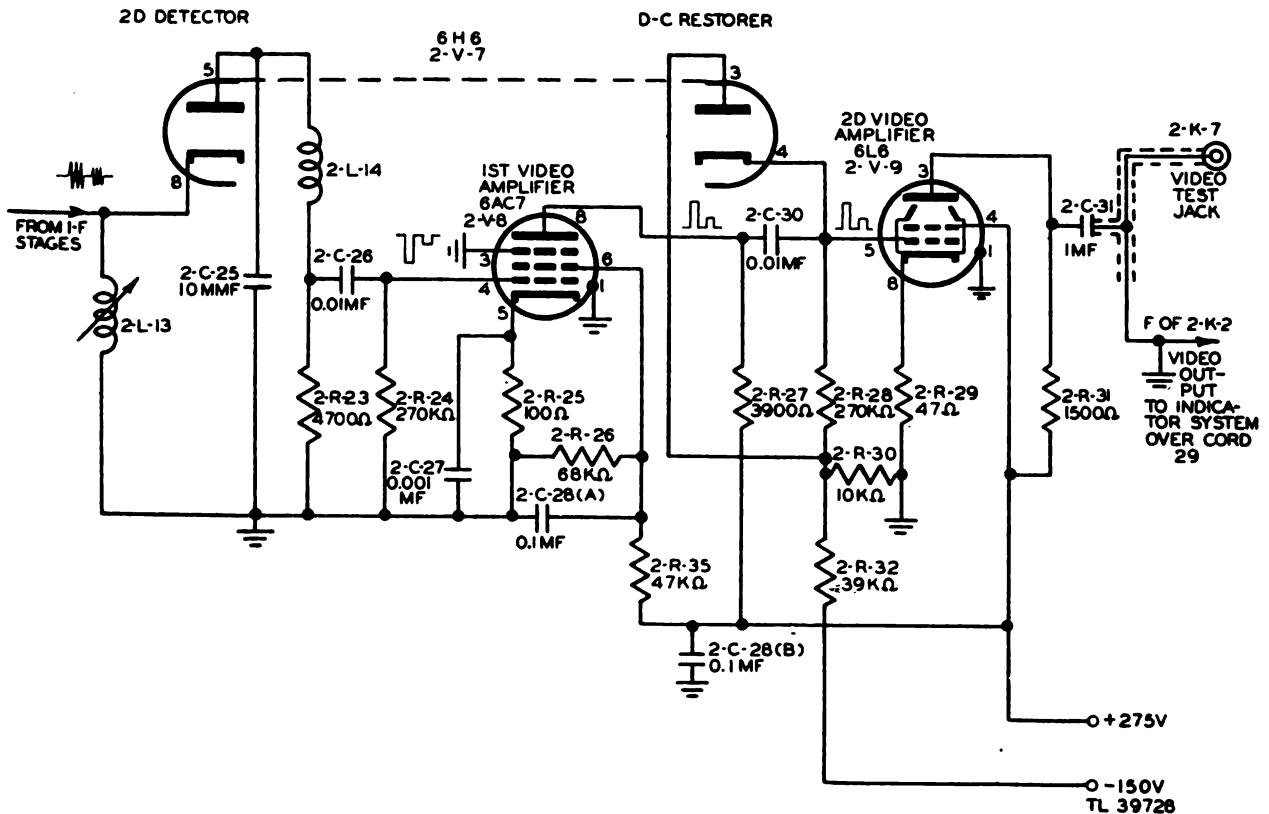

Figure 93. Second detector, d-c restorer, and video stages, simplified schematic diagram.
*l.* **SECOND DETECTOR.** The input to the second detector (2-V-7, 6H6, fig. 93) is through the 0.0001-mf coupling capacitor 2-C-23, from the plate of the sixth i-f stage, to the cathode of one section of 2-V-7. The second section of this tube is used in another circuit and will be discussed later. The detector input is the parallel-
**m. FIRST VIDEO STAGE.** The negative pulse from the detector is applied to the grid of the first video amplifier (2-V-8, 6AC7, fig. 93). The grid is returned to ground through the 270,000-ohm grid resistor 2-R-24. The first video is biased by the 100-ohm cathode resistor 2-R-25. The cathode is bypassed by a 0.001-mf capacitor (2-C-27) to prevent degeneration. The screen is bypassed by a 0.1-mf capacitor ("A" in 2-C-28). Screen voltage for this tube is obtained from the +275-volt source and is dropped approximately 60 percent through the voltage divider network of 68,000 ohms and 47,000 ohms (2-R-26 and 2-R-35).
**n. D-C RESTORER.** The second half of the 6H6 (2-V-7) is connected across the grid load of the second video tube with the cathode going to the grid (fig. 93). The normal input to the grid of the second video is positive pips. After a series of positive pulses the 0.01-mf coupling capacitor 2-C-30 will hold a small charge, and it is the purpose of the d-c restorer to discharge this capacitor. Following a large video pulse, the capacitor tends to drive the grid more negative than the applied bias, but at this time the diode conducts, lowering the resistance in the grid circuit, effectively stopping any pulse from swinging negative following a positive rise on the
*o.* **SECOND VIDEO STAGE.** The positive pulse from the first video is applied to the grid of the second video amplifier (2-V-9, 6L6, fig. 93). The tube is operated Class AB, getting its bias through a 270,000-ohm grid load resistor (2-R-28) and a 39,000-ohm resistor (2-R-32) connected in the negative 150-volt source in the power supply. The 10,000-ohm resistor 2-R-30 is used as a voltage divider to lower the grid bias approximately 25 percent. The cathode is returned to ground through 47 ohms (2-R-29) which allows some degeneration to maintain a linear pulse. The screen is tied directly to the +275-volt source, and is bypassed by a 0.1-mf capacitor ("B" of 2-C-28). The plate load of the second video is 1,500 ohms (2-R-31), and the gain of the stage is approximately one-half. The small load resistor and the use of the 6L6 tube (as a power amplifier) forms a means of impedance